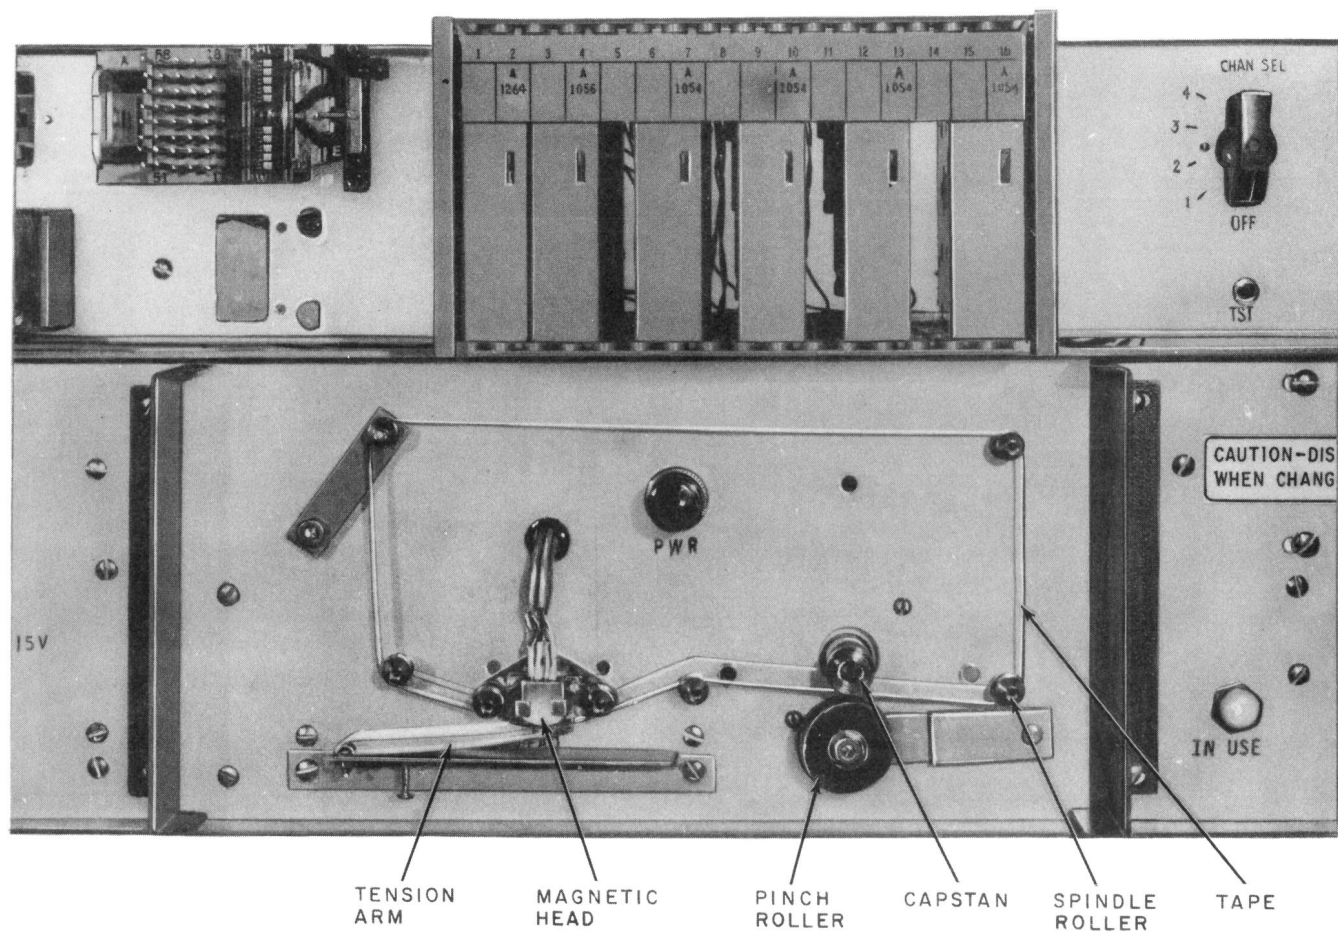

Fig. 2—12A Announcement System (Front Door Removed)
5.01 The apparatus to be used for tape replacement is shown in Fig. 2. To remove the tape: